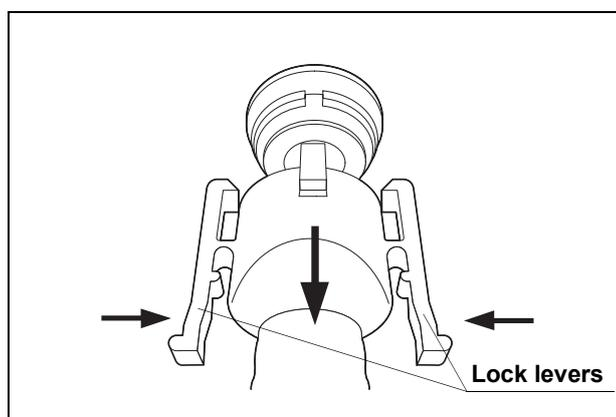

Figure 7.69
9. Hold the lock levers and slowly disconnect the tube (see Figure 7.69).